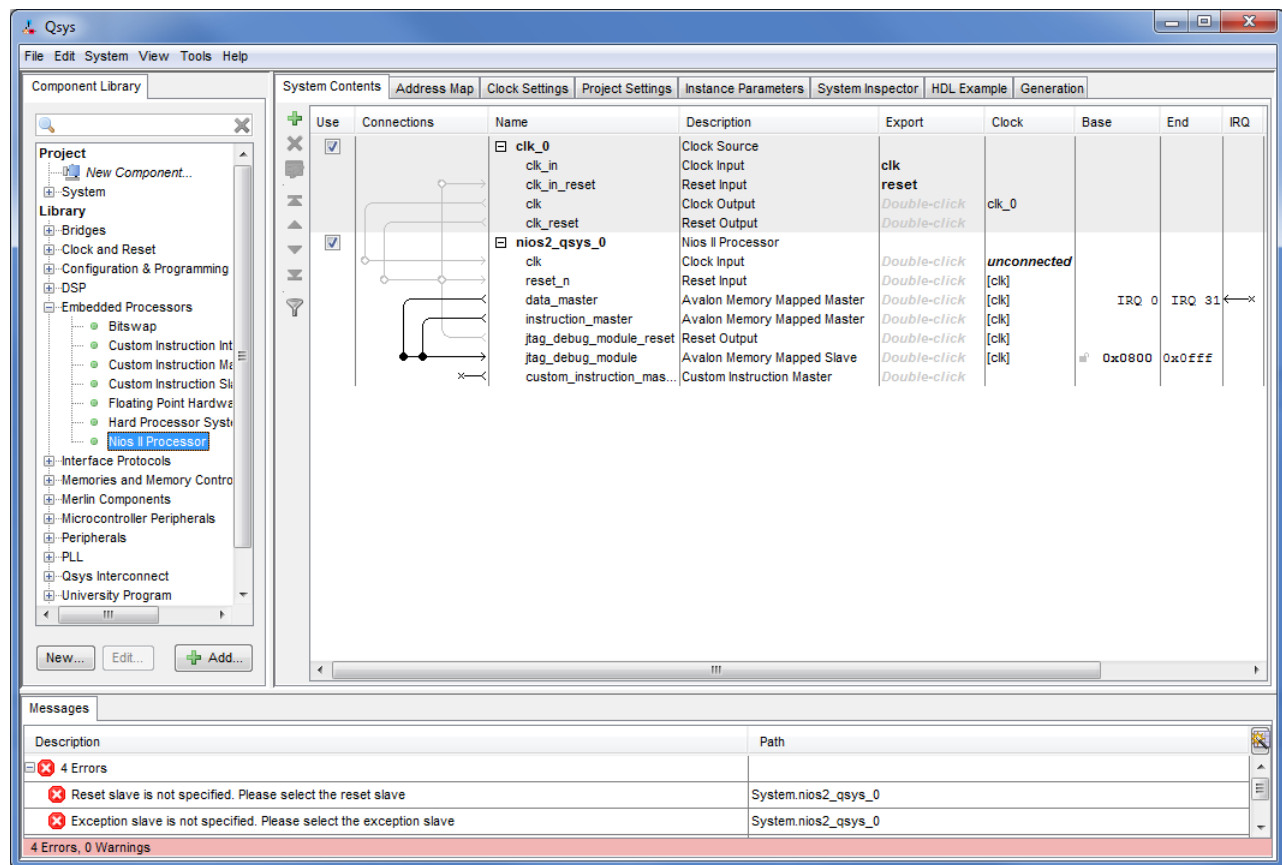

Figure 7. Inclusion of the Nios II processor in the design.
- Choose Nios II/e which is the economy version of the processor. This version is available for use without a paid license. The Nios II processor has *reset* and *interrupt* inputs. When one of these inputs is activated, the processor starts executing the instructions stored at memory addresses known as *reset vector* and *interrupt vector*, respectively. Since we have not yet included any memory components in our design, the Qsys tool will display corresponding error messages. Ignore these messages as we will provide the necessary information later. Click **Finish** to return to the main Qsys window, which now shows the Nios II processor specified as indicated in Figure 7.